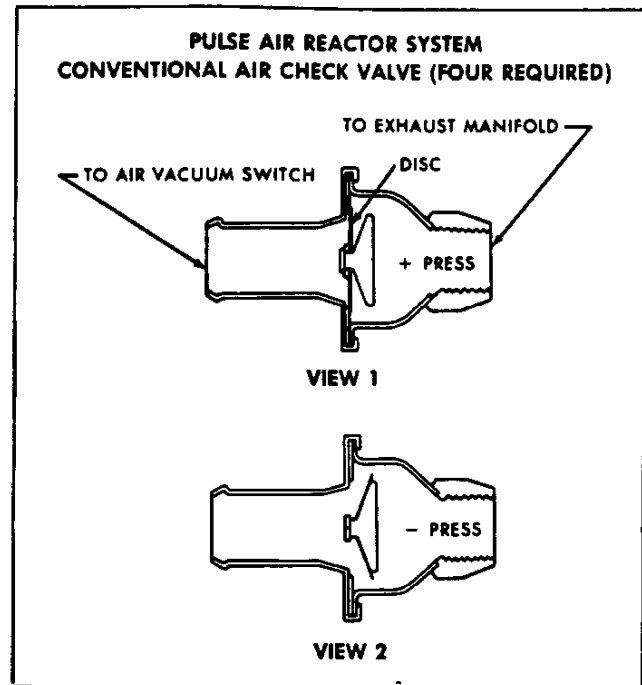

Figure 2a — Air Check Valve
1. If the pressure is positive, the disc is forced to the closed position and no air (exhaust gas) is allowed to flow past the valve and into the air supply line (fig. 2a, View 1).
2. If there is a negative pressure (vacuum) in the exhaust system at the valve, the disc will open allowing fresh air to mix with the exhaust gases (fig. 2a, View 2). The disc, due to the inertia of the system, fails to follow the pressure pulsations at high engine RPM's. At this point, the disc would remain closed preventing any further fresh air flow. The pulse air shut off valve incorporates a design feature that permits this valve to assume a position described as follows: